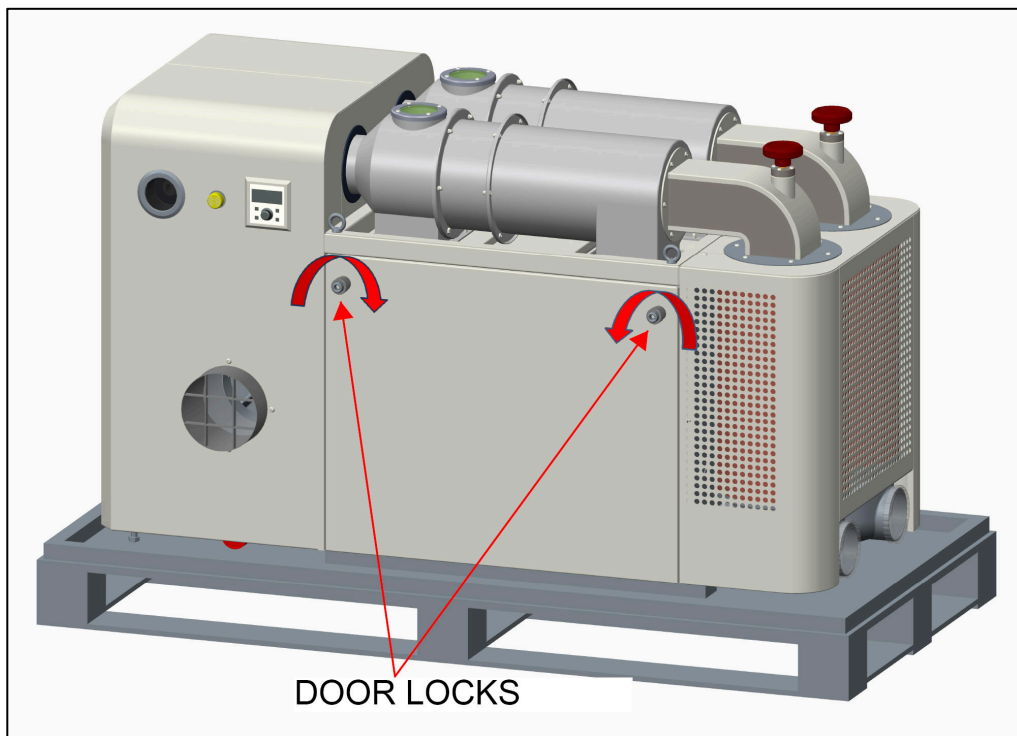
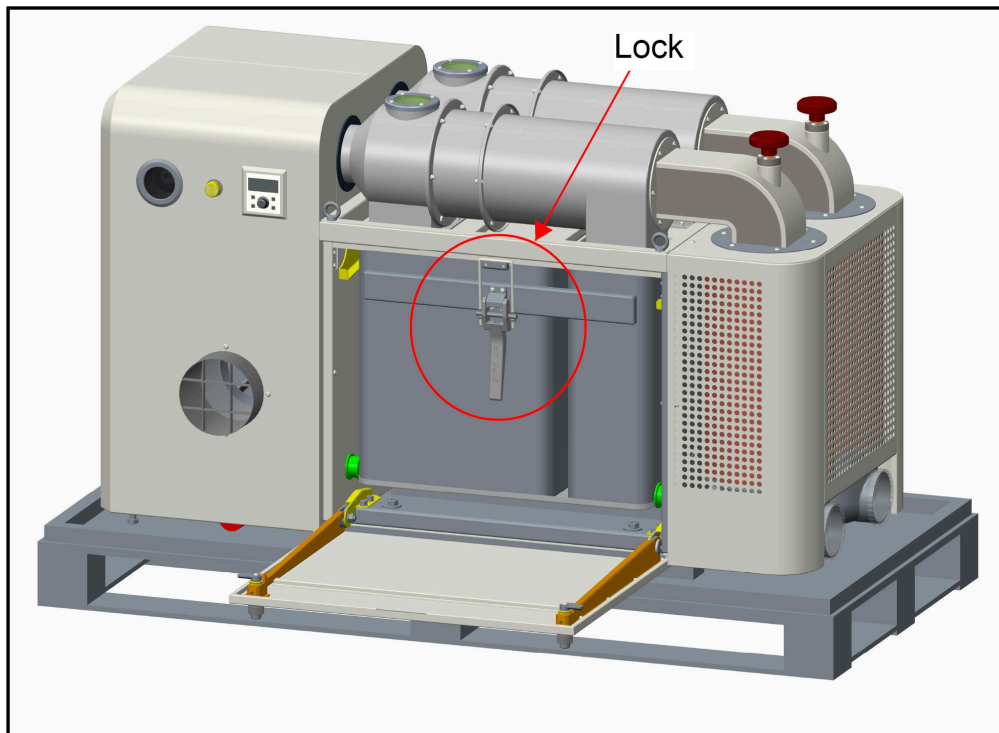

Fig.6
Fig.7
1. Remove the package box, keep the base unit on the pallet. As **Fig.6**
2. Rotating the knobs as arrow indicated (**see Fig.6**) to open the door. Then release the dust bin (**see Fig.7**) , you can slide the dust bin out.
Rotate the knobs as the arrow indicates (see Fig.6) to open the door. Release the dust bin (see Fig.7), you can slide the dust bin out.